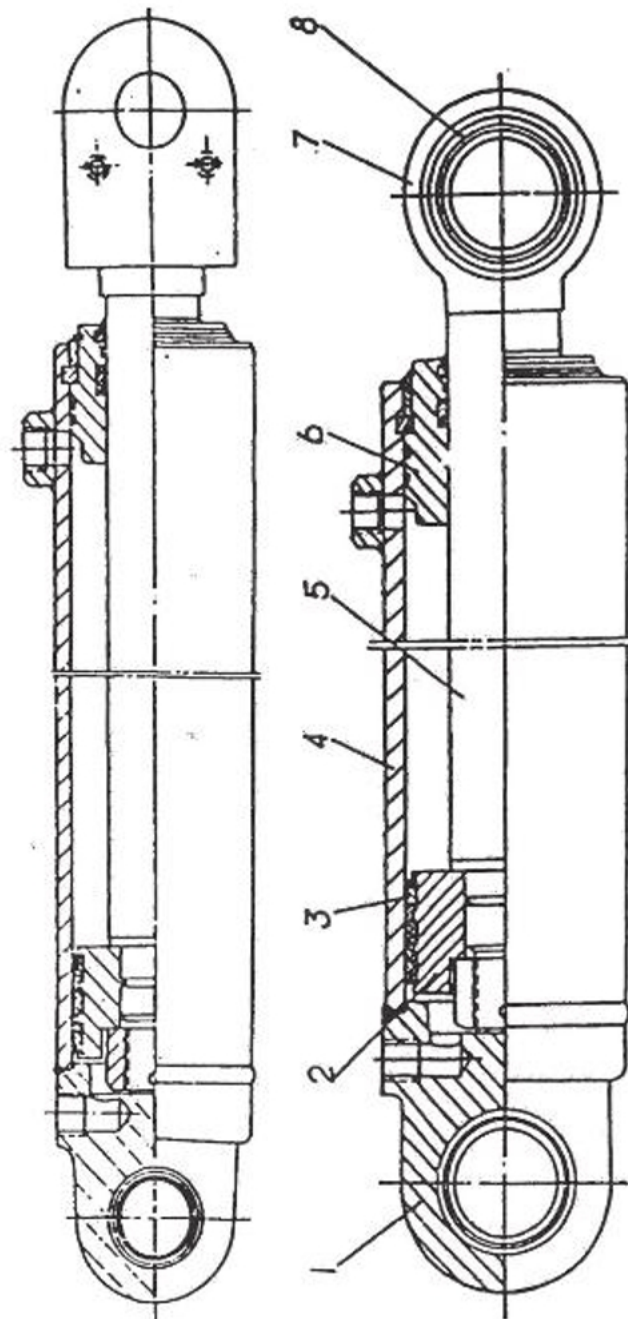

Figure 2-14: Illustration for Hydraulic Cylinder of Boom and Rotating Bucket
2) Hydraulic cylinder (Figure 2-14): for the loader, all the hydraulic cylinder structures have basically the same principle and are all the double-acting single-rod piston hydraulic cylinder, which is composed mainly of cylinder end (1), cylinder barrel (4), piston (2), cylinder rod (5) and sealants. When the pressure oil passes through the multi-way reversing valve into Oil Duct a, the oil liquid pushes the piston to right. The oil liquid on the right of the piston flows back, via oil duct b, to the oil tank and the cylinder rod portends. Similarly, when oil duct b take in oil and Duct a returns oil, the piston shifts to the left and the cylinder rod draws back. Since the cylinder rod and piston are linked together, the oil pressure differs from the acting area on both sides of the piston. Under the same oil pressure, the left side of the piston receives bigger acting force.